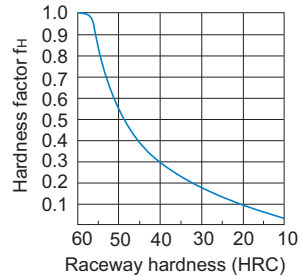

Fig. 1 Hardness Factor (f_H)
- f_H : Hardness factor (see Fig.1 **A11-6**)